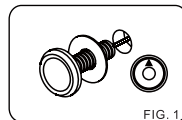

FIG. 1
2. Carefully feed Ribbon Connector/Camera assembly (6) thru the hole in the door from the Exterior Ribbon connector first. (Please Be Extremely careful not to damage the ribbon connector). Make sure the washer (5) is between the camera lens and the door. Make sure that the arrow mark on front of the camera is pointing upwards. (FIG. 1)
3. Remove 3M film protector from the backside of the mounting plate (4).
4. From the Interior side of the door, carefully pass the ribbon connector thru the hole in the middle of the mounting plate (4) while sliding the hole in the mounting plate over the threads of the camera (6), (FIG.1). Please note the (UP) notation on the mounting plate, and the brackets for the mounting plate are facing away from the door.